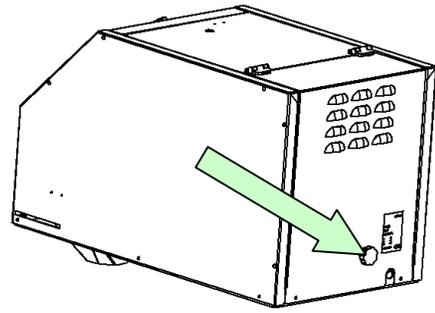
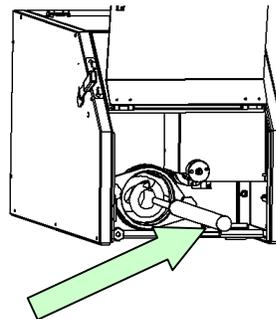

Fig. 3
Fig. 12
7. As in Fig. 12, unscrew the nut at the back of the machine (fig. 3) completely and extract the central tube.